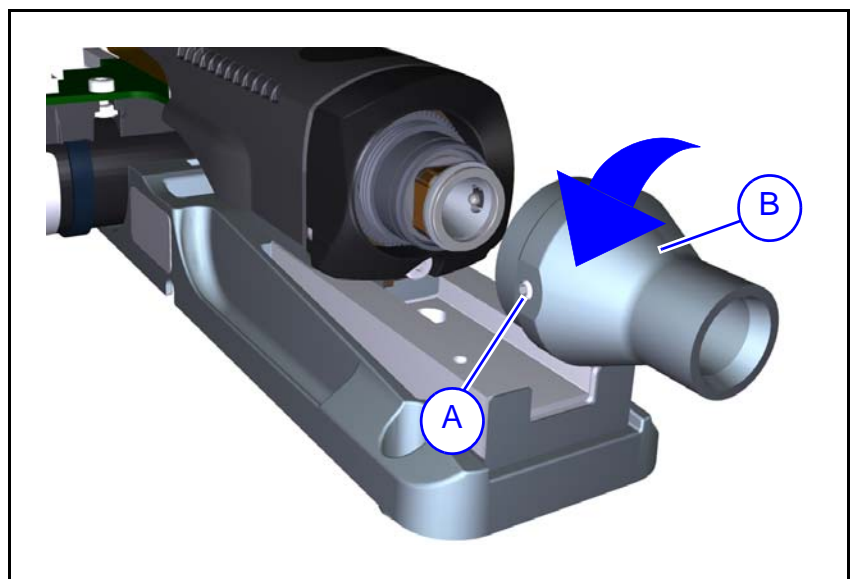

Figure 16-34. Midas II tool holder.
1. Carefully loosen the locking screw ('A' in Figure 16-34) on the tool holder ('B').
2. Remove the tool holder ('B') by turning the tool holder anti-clockwise, see Figure 16-34.